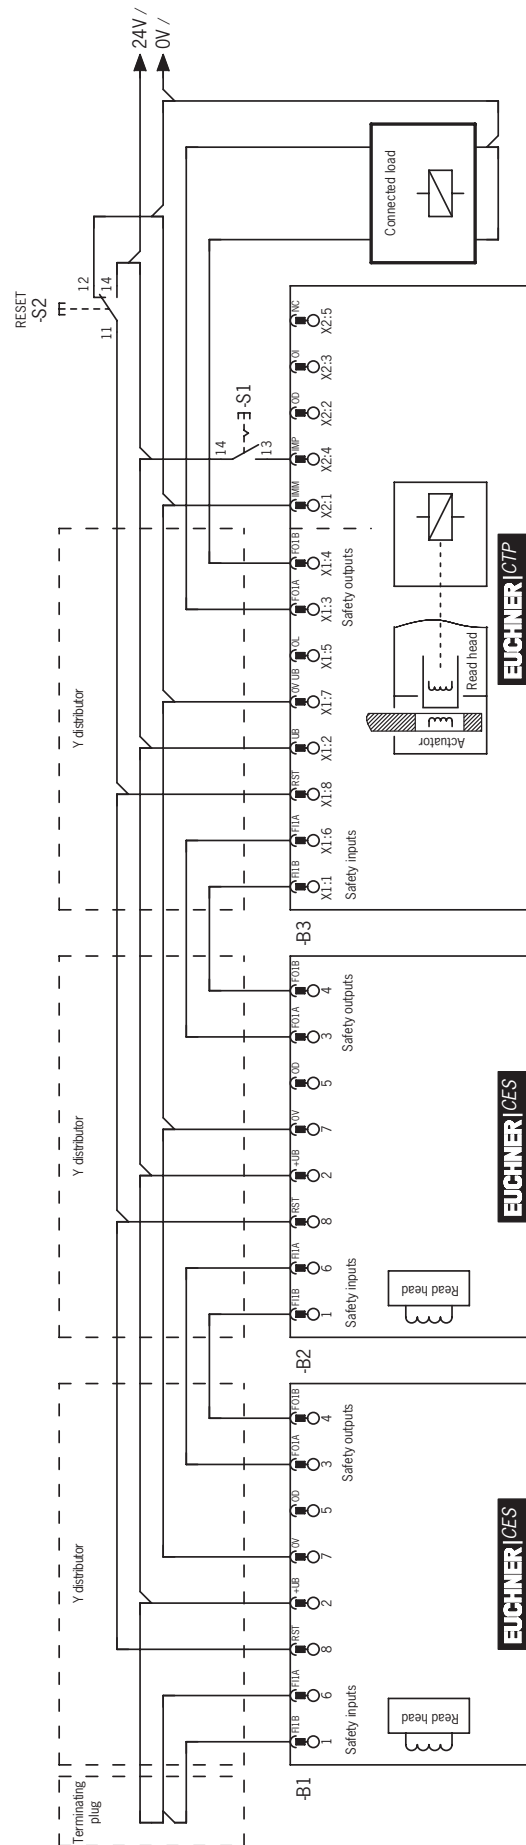

Figure 5: Connection example for operation in a CES-AR switch chain
- › A common signal must be used for all switches in the chain. This can be a changeover switch or the output of a control system. A pushbutton is not suitable, because Reset must always be connected to GND during operation (see switch S11 in *Figure 5 on page 25*).
Input RST must be connected as shown in *Figure 5 on page 25* to permit this.